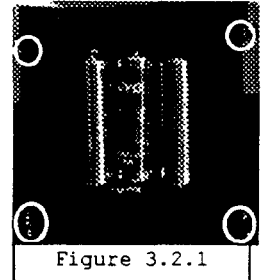

Figure 3.2.1
- 3.2.11.3 Open the battery cover and remove the three batteries. Using a small flat blade screwdriver, or similar tool insert into the retaining clips of the battery box while gently lifting it out of the keyboard enclosure. **BE CAREFUL NOT TO BREAK EITHER OF THE TWO WIRES CONNECTING TO SAME.** Lay this battery box aside; do not disconnect any wires. See figure 3.2.1 for clip locations.